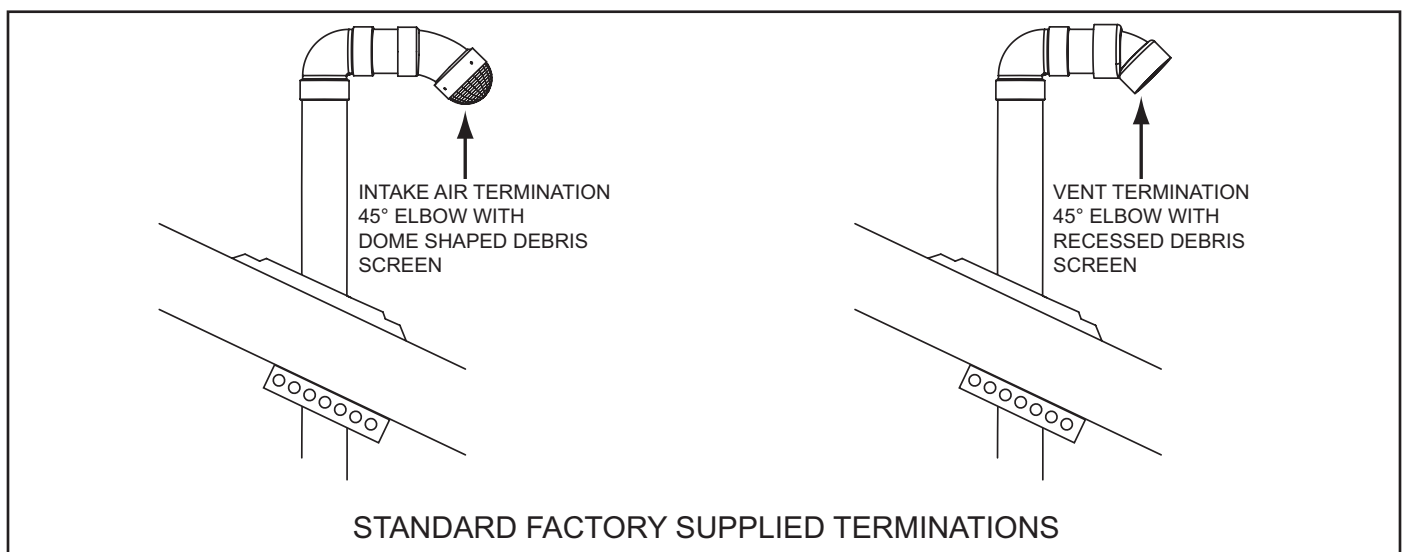

Figure 22
**NOTE:** The standard vent and intake air terminations are of different design, see Figure 22.
**NOTE:** The standard vent and intake air terminations are of different design, see Figure 22 on page 27.